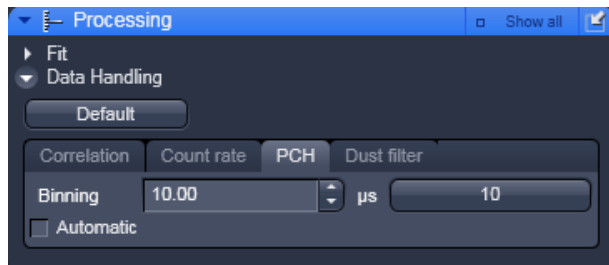

Fig. 9-52 PCH panel
- Click on the **PCH** register to open the **PCH** panel (Fig. 9-52). Click any other register to leave the panel.